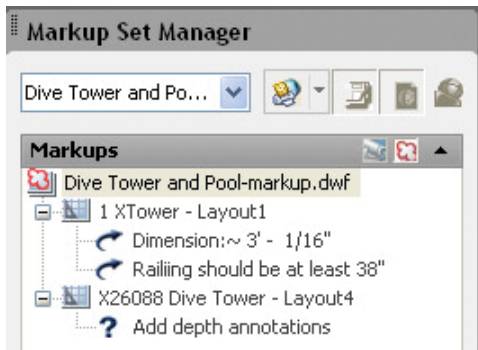

Figure 16
7. Republish the sheets with revised status when complete. (Figure 16)